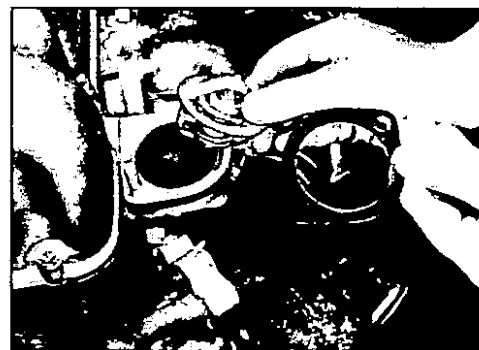

Fig. B.3 Removing the water pump.
4. Remove the retaining nuts and withdraw the water pump. (See Fig.B.3.).